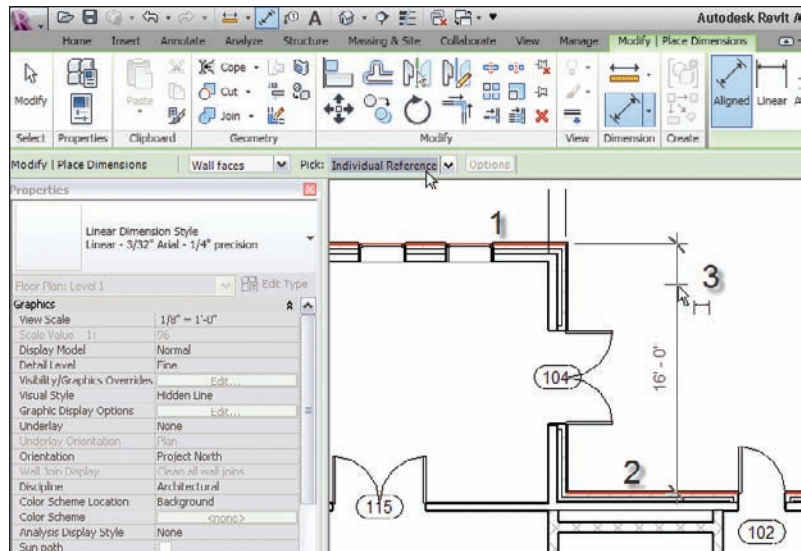

FIGURE 5.6 Placing the dimension by picking two objects
1. Zoom in on the northeast portion of the east wing, as shown in Figure 5.6.
3. On the Options bar, choose Individual References from the Pick menu, as shown in Figure 5.6, and do the following:
- b. Pick the horizontal wall that ties into the radial wall, illustrated as “2” in Figure 5.6.
- c. Place the dimension about 8' to the right of the vertical wall, as shown in Figure 5.6.